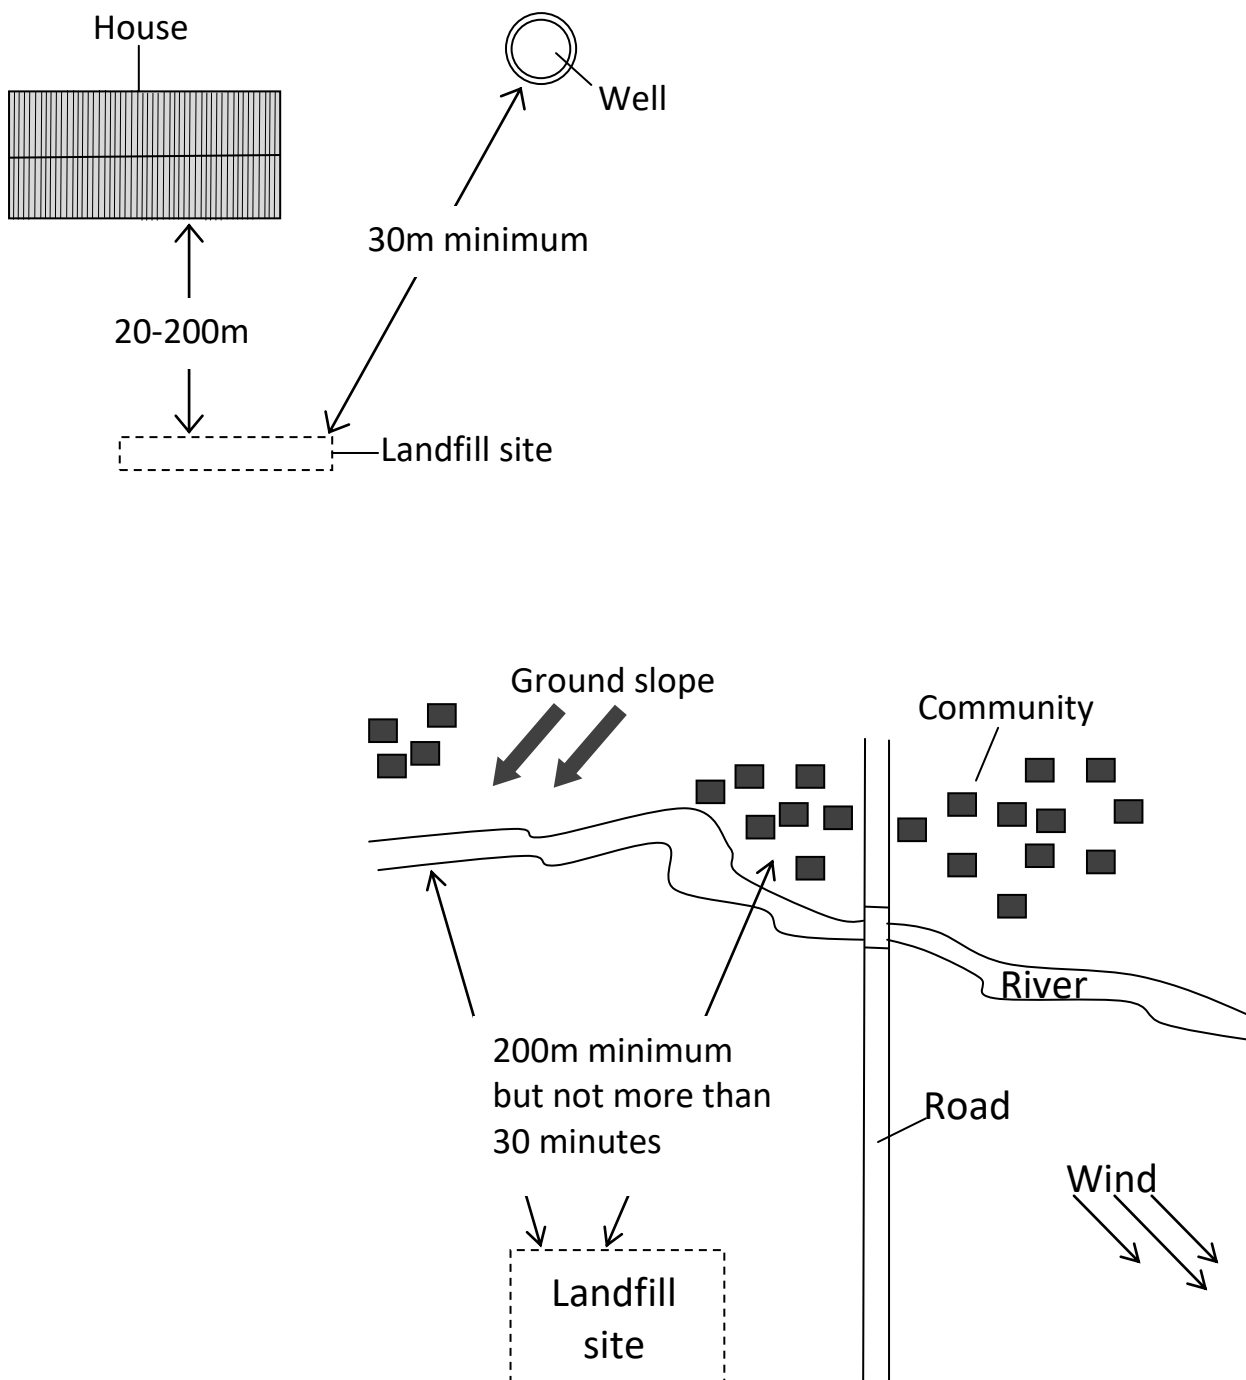

Figure 12-1: Landfill locations for household/compound (top left) and community (bottom right).
2. **Distance:** A landfill must be far enough from wells and streams to protect water supplies from contamination, far enough from dwellings to prevent causing a nuisance, and close enough to the source of the waste to avoid excessive transport. If you are making a landfill site for one house or compound, it should be at least 30 metres, preferably downhill, from wells and streams. A community landfill should be at least 200 metres, preferably downhill, from wells and streams and at least 200 metres from the nearest dwelling (see Figure 12-1).
When a suitable site has been located, draw a map like Figure 12-1 showing the site in relation to dwellings, water wells, streams, roads, and so on, and indicating ground slope and prevailing wind direction.